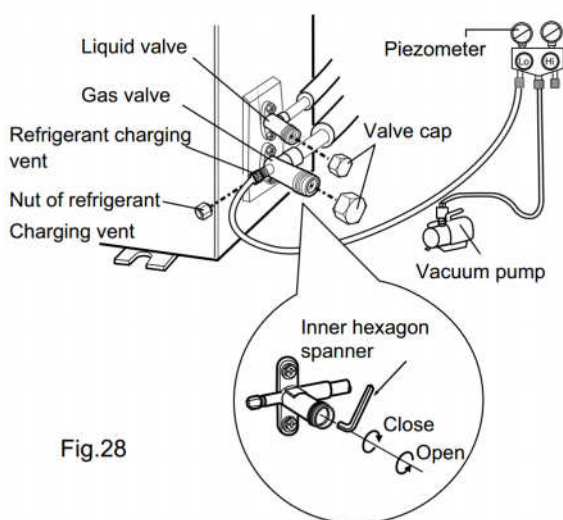

Fig.28
(1) Remove the valve caps on the liquid valve and gas valve and the nut of refrigerant charging vent.
(2) Connect the charging hose of piezometer to the refrigerant charging vent of gas valve and then connect the other charging hose to the vacuum pump.
(3) Open the piezometer completely and operate for 10-15min to check if the pressure of piezometer remains in  $-0.1\text{MPa}$ .
(4) Close the vacuum pump and maintain this status for 1-2min to check if the pressure of piezometer remains in  $-0.1\text{MPa}$ . If the pressure decreases, there may be leakage.
(5) Remove the piezometer, open the valve core of liquid valve and gas valve completely with inner hexagon spanner.
(6) Tighten the screw caps of valves and refrigerant charging vent.(As show in Fig.28)